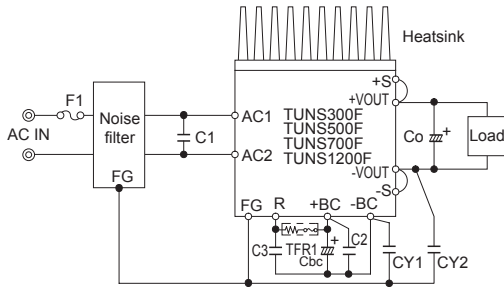

Fig.1.1 Connection for standard use
■ To use TUNS series, connection shown in Fig.1.1 and external components are required.